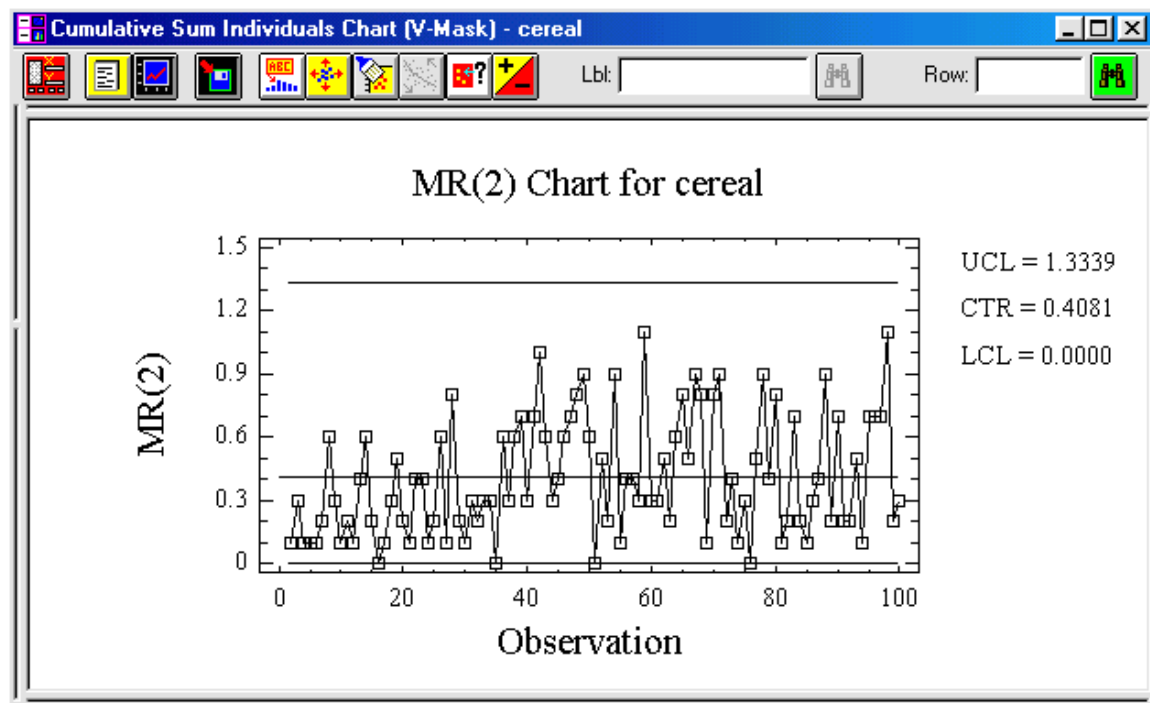

Figure 5-66. MR(2) Chart
The MR(2) Chart option creates a plot of the moving ranges for each of the measurements (see Figure 5-66). It notes the points that are beyond the control limits.